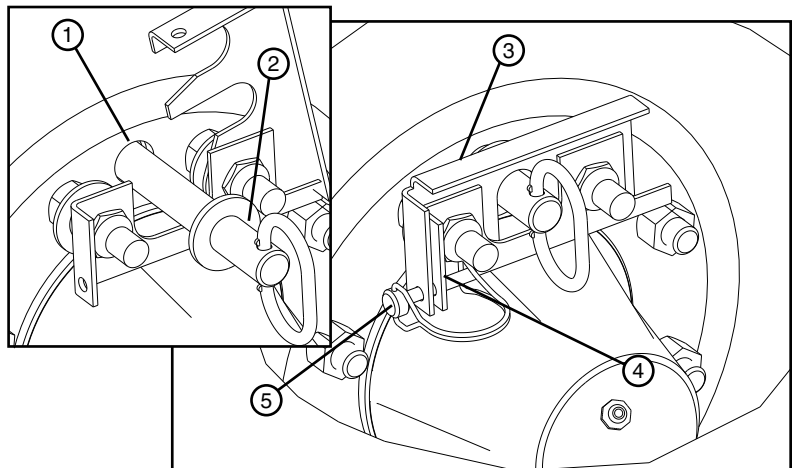

Figure 83-2 1. Hub Torque Pin Receiver 4. Retainer Clip
- Rotate the tire until the hole in the hub torque pin receiver is aligned with the hole in the axle torque arm. Install the torque pin and close the retainer plate. Secure the retainer plate to the retainer clip with the lynch pin. See figure 83-2.